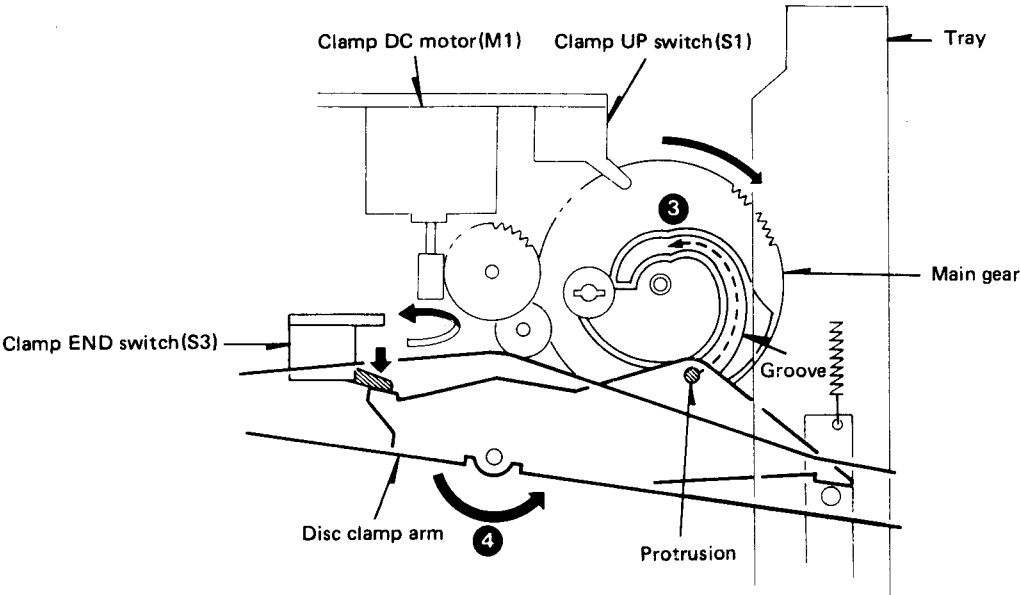

Fig. 5 Tray OPEN operation (2)
arrow as indicated before, the protrusion placed at the lower side of the disc clamp arm is led in the direction of arrow (3) along the groove of the main gear. Thereby, the disc clamp arm is rotated in the direction of arrow (4) (Figure 5).